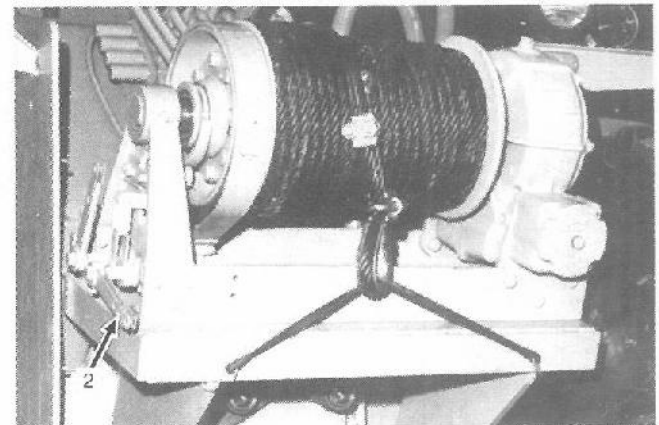

Figure 36: 2-Drum Drag Brake Lever
1. Cable may be reeled out to the load by releasing drum clutch lever (1).
2. If assisted by second person, during the reeling out process, drum speed may be controlled by the drag brake lever (2-Fig. 36). This will help prevent cable from becoming entangled if reeled out too fast.